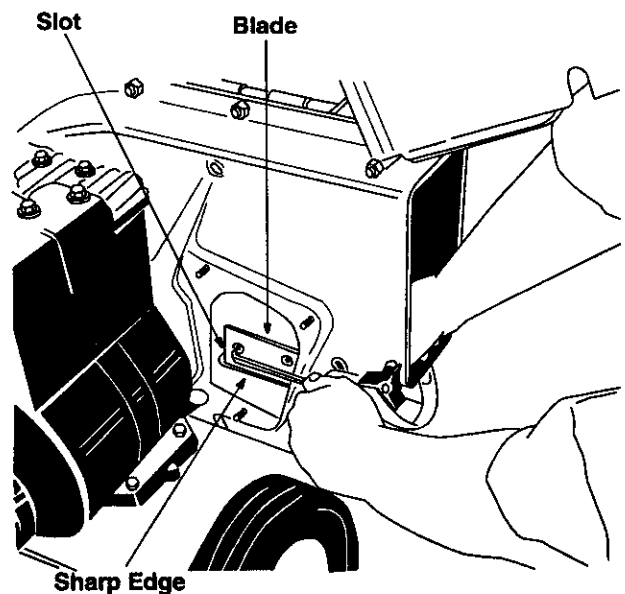

Figure 19
- Rotate the impeller assembly by hand until you locate one of the two chipper blades in the chipper chute opening. Remove the blade, using a 3/16" allen wrench on the outside of the blade and 1/2" wrench on the impeller assembly (inside the housing). See Figure 19.
- Reassemble in reverse order. Make certain blades are reassembled with the sharp edge facing the direction shown in Figure 19 (sharp edge is assembled toward the slotted opening at the bottom).